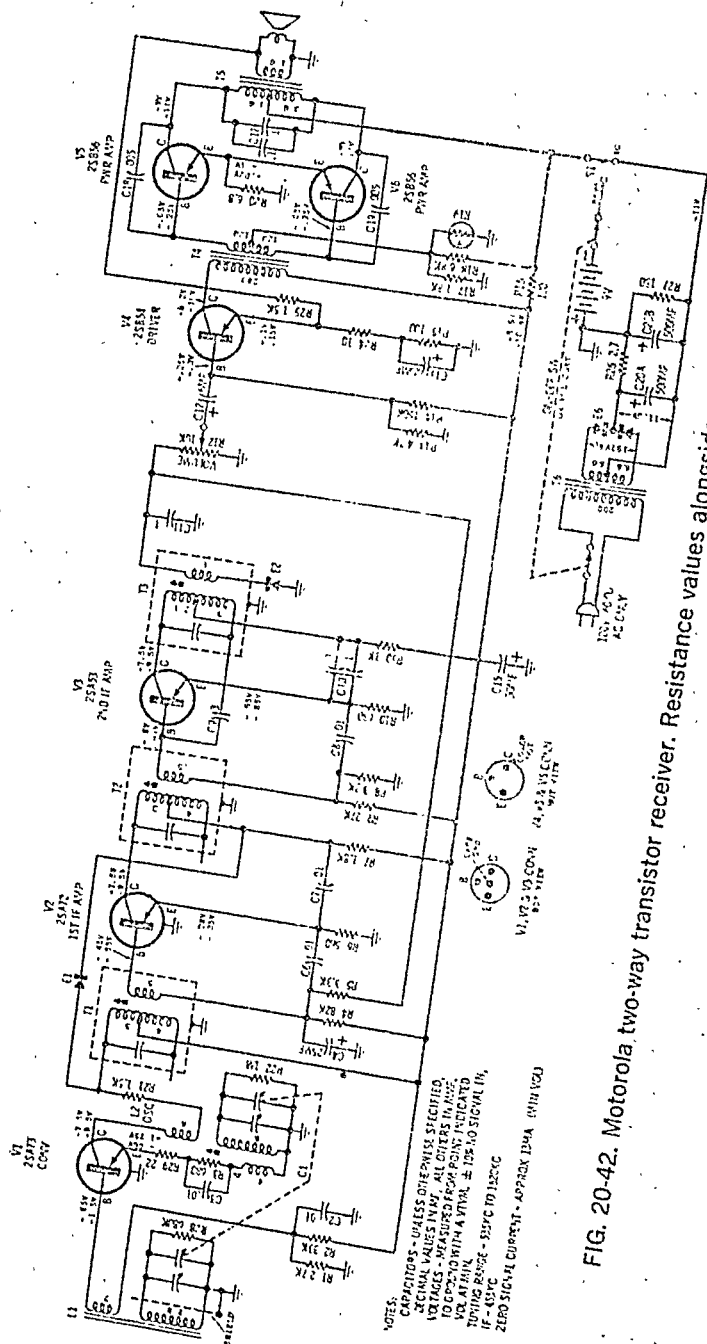

FIG. 20-42. Motorola two-way transistor receiver. Resistance values alongside coils are in ohms.
Figure 20-42 shows a Motorola transistor receiver. The set is designed for two-way operation—either from the 120-volt a-c line or from batteries, the mode of operation controlled by switch S-1. The line mode employs a step-down transformer and full-wave rectification furnished by a dual selenium diode rectifier. These are followed by the filter circuit, composed of capacitors C-20A and C-20B and resistor R-26. Servicing of this power supply is similar to that of the standard tube power supply. Resistor R-27 is a bleeder which gives better voltage output regulation.
8. The circuit of Fig. 20-42 does not work. A voltage check of the driver stage shows zero voltage at the base and at the emitter, and normal voltage at the collector. Describe how you would locate the defect.